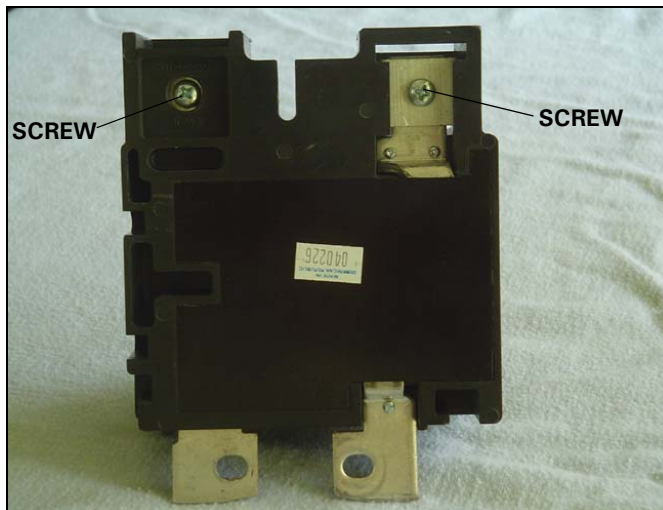

Figure 47. Location of the Screws Securing the Lugs to the Stabs.
Step 3: Working from the rear of the service entrance breaker, remove the two (2) screws securing the lugs to the stabs using a Phillips screwdriver (See fig. 47)